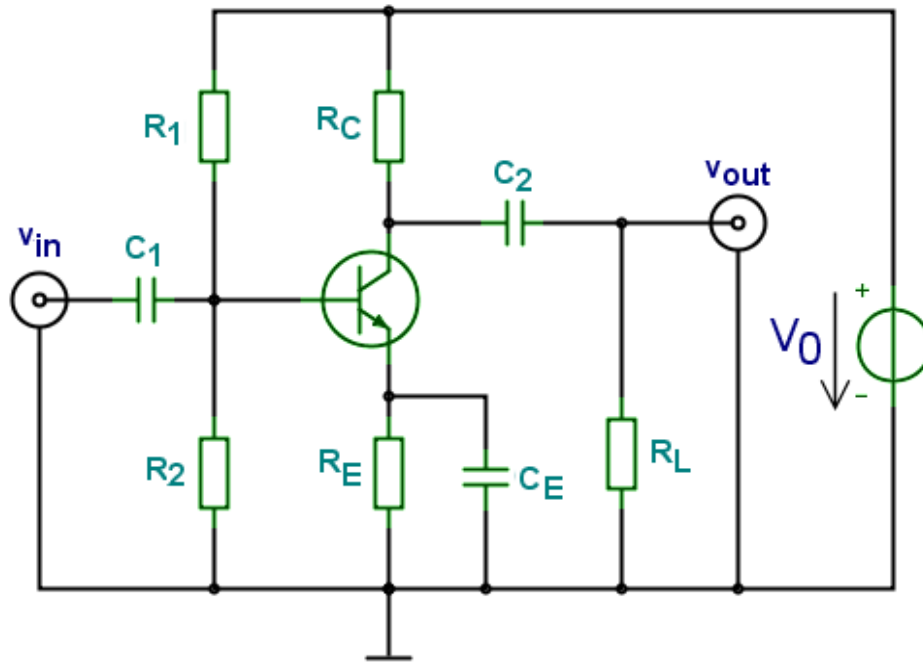

Figure 2.4: Complete measurement circuit of CE amplifier
2.2.3 Complete the rest of the circuit with the capacitors and load resistor, according to **figure 2.4**. Values: $C_E = 47\mu\text{F}/35\text{V}$ (it's an electrolytic capacitor which is polarity sensitive, its negative pole is noted on the package, take care when inserting it in the circuit); $C_1=C_2=100\text{nF}$ (ceramic or foil capacitors, these are polarity independent). The load is matched, that is $R_L=R_C$. Connect the point marked as v_{in} to the analog output of the function generator and also to the channel 1 (CH1) of the scope (use a T-junction and BNC-BNC cable). Connect v_{out} to CH2 of scope.